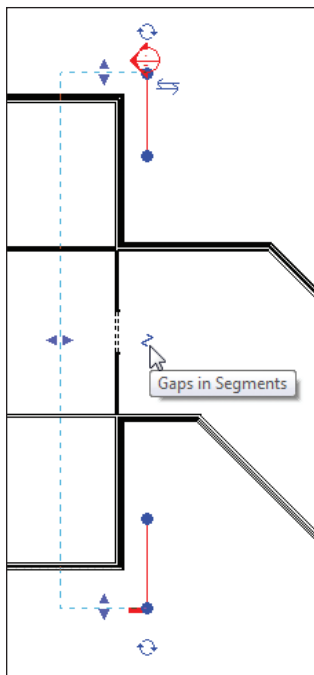

FIGURE 3.35 Adding a gap in the section. You can move your grips to be the same as the figure.
8. With the section still selected, notice you have a small, blue break icon in the middle of the section (see Figure 3.35). Pick the break line (it is called the Gaps In Segments icon). The section is now broken, and you will have grips controlling the ends of the break lines (see Figure 3.35).